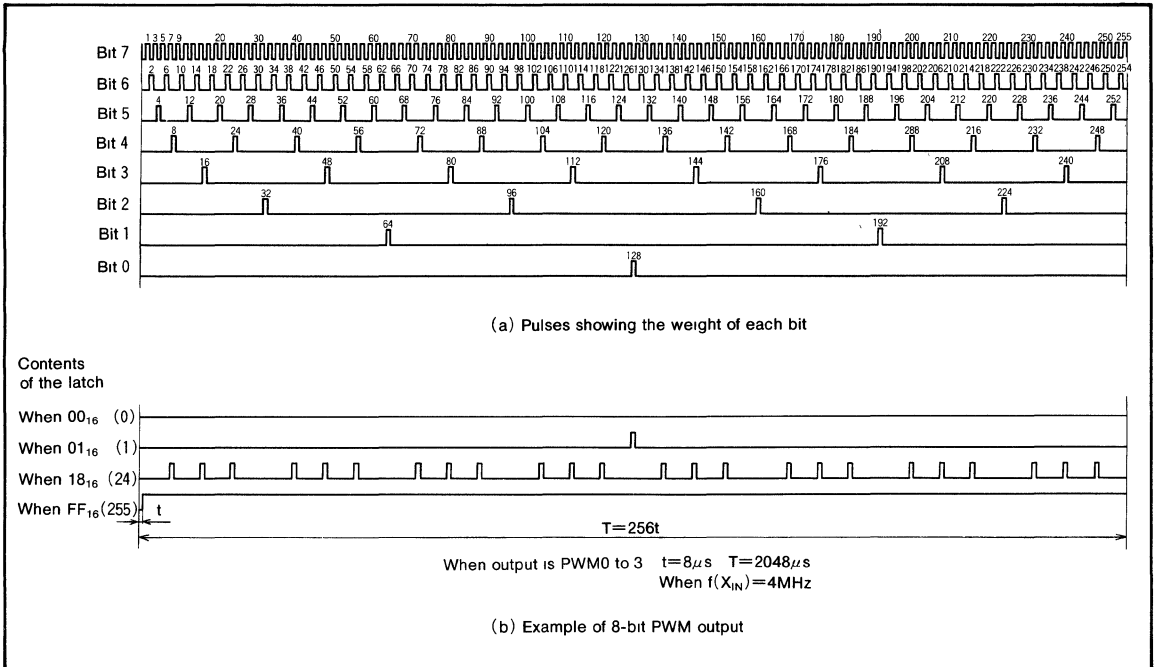

Fig. 17 8-bit PWM timing diagram
(4) Operation of the 8-bit PWMs
The timing diagram of the four 8-bit PWMs (PWM0 to 3) is shown in Figure 17. One period (T) is composed of 256 (28) segments.
There are eight different pulse types configured from bits 0 to 7 representing the significance of each bit. These are output within one period in the circuit internal section. Refer to Figure 17 (a).
Eight different pulses can be output from the PWM. These can be selected by bits 0 through 7. Depending on the content of the 8-bit PWM latch, pulses from 7 to 0 is selected. The PWM output is the difference of the sum of each of these pulses. Several examples are shown in Figure 17 (b). Changes in the contents of the PWM latch allows the selection of 256 lengths of high-level area outputs varying from 0/256 to 255/256. An length of entirely high-level output cannot be output, i.e. 256/256.